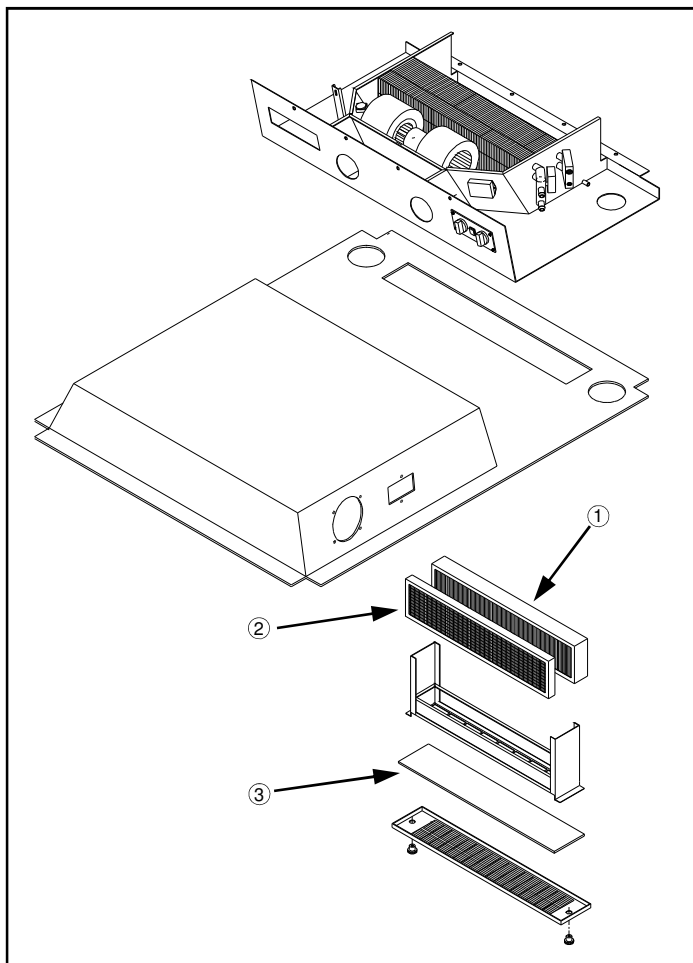

FIG 8.26
PAPER FILTER - (fig. 8.26, item 1) The paper filter should be cleaned once a year, or more often if necessary. Remove the paper element and gently tap it against a flat surface. Direct low pressure compressed air through the filter to remove larger particles. Replace the paper filter if necessary.
CHARCOAL FILTER - (fig. 8.26, item 2) Remove and replace at the first sign of chemical odor entering the cab.
RECIRCULATING FILTER - (fig. 8.26, item 3) The recirculating filter may be cleaned with soap and water. Replace if it becomes worn.